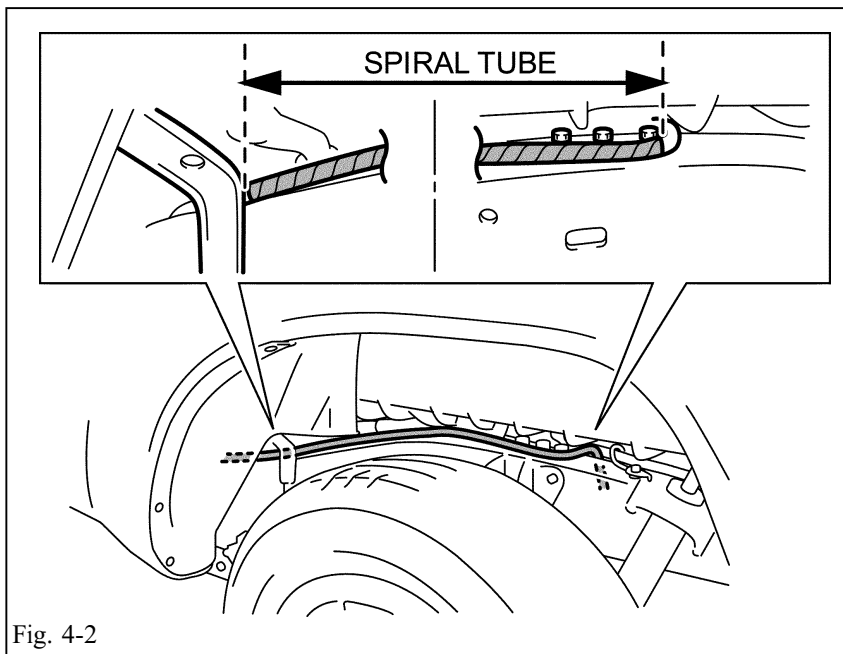

Fig. 4-2
- (1) Route the wire harness spiral tube to the position in the figure. (Fig. 4-2)